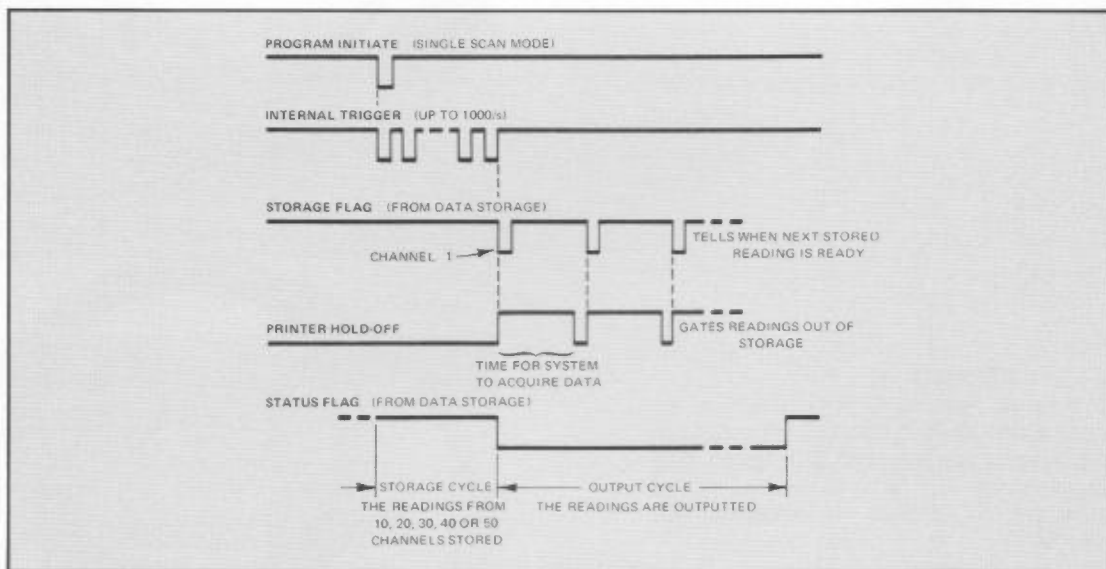

FIGURE 16
6. Information may be gated out using PRINTER HOLD-OFF (positive going) or DUMP HOLD (negative going) signals. See Figure 16 for timing.